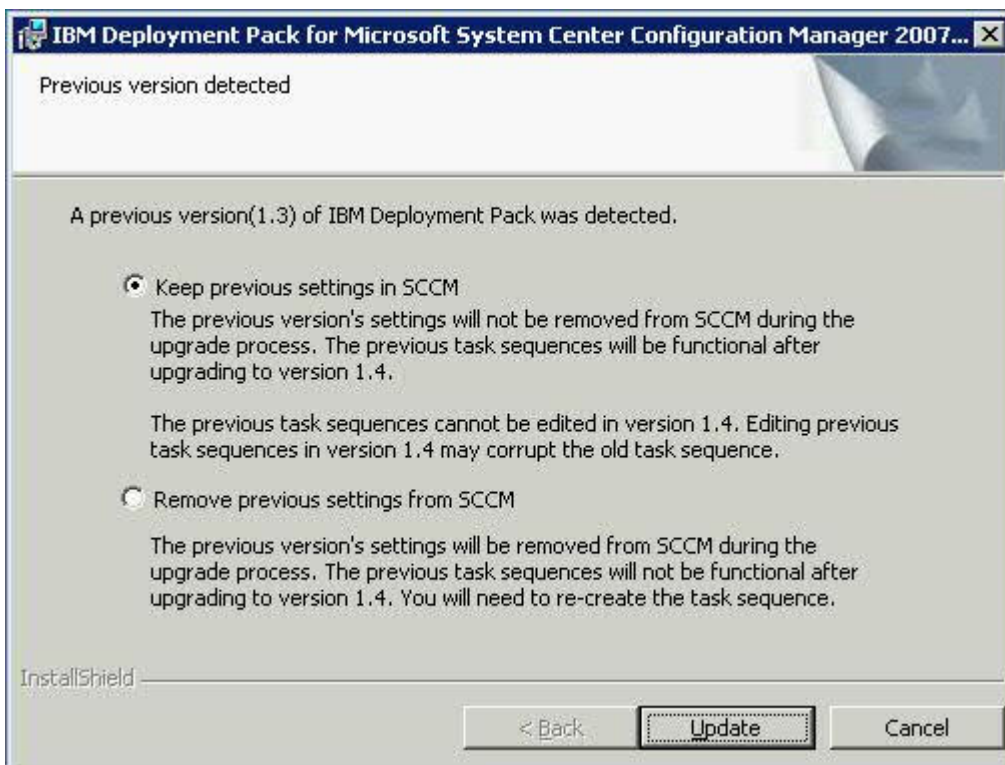

Figure 10. Option to retain settings of previous version
1. Click **Next** until the wizard panel appears asking whether you want to keep your current settings from the previous version (see Figure 10 on page 12).